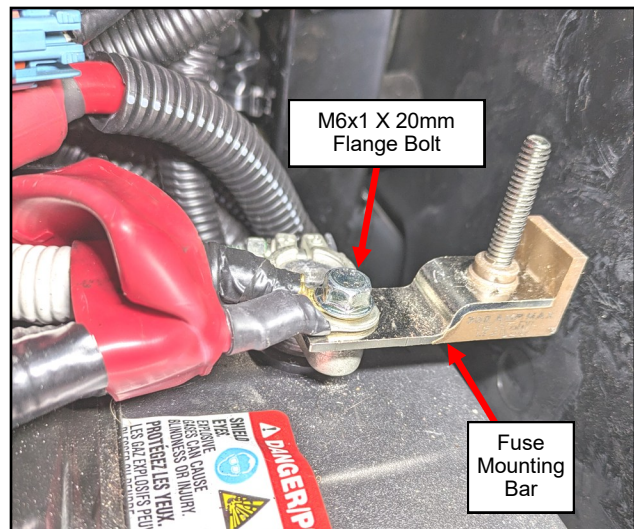

Fig. 4.3 (Install Fuse Mounting Bar)
- 4.3 Install Fuse Mounting Bar and both OEM and new alternator power wires to the positive terminal using the new larger head bolt provided. See fig 4.3.